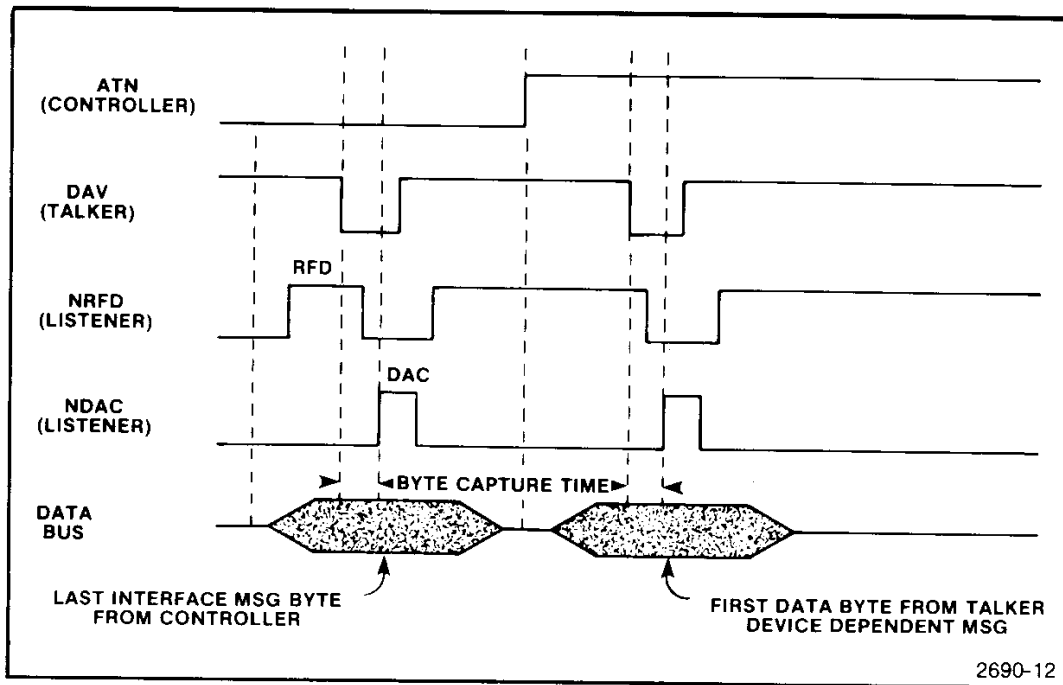

Figure E-6. A typical handshake timing sequence.
**The Transfer Bus.** Each time a data byte is sent over the data bus the source device and the acceptor device execute a handshake sequence via the transfer bus. Figure E-6 illustrates the basic timing relationship between the three transfer bus lines, DAV, NRFD, and NDAC. The ATN line is included to illustrate its role in the process.